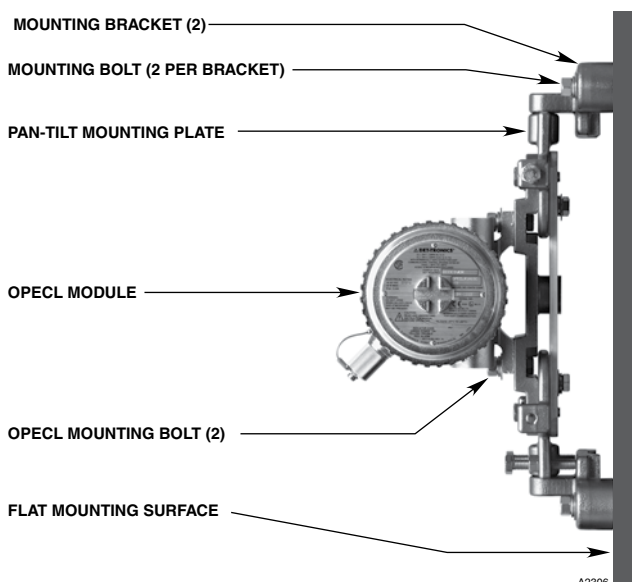

Figure 6—OPECL Gas Detector Mounted to Flat Surface
- For flat surface mounting, refer to Figure 6.